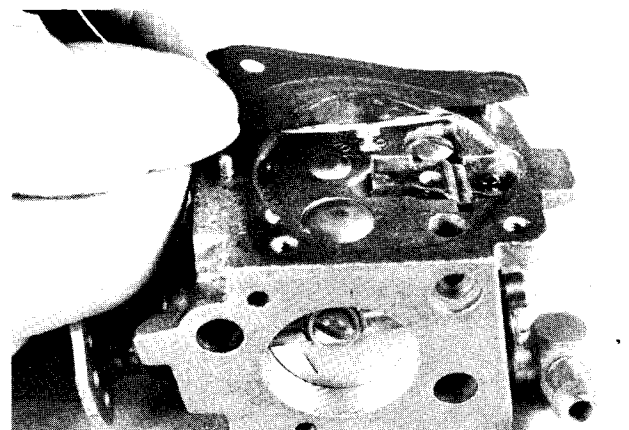

Fig. 61 — Removing/Installing Diaphragm from Control Lever
4. Unhook main diaphragm from control lever and remove, Fig. 61.
8. Hook main diaphragm to control lever, Fig. 61, and secure in place with cover and screws.